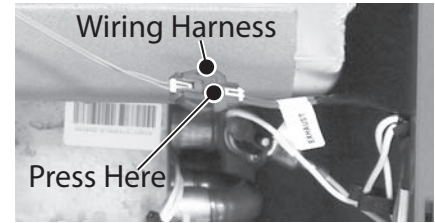

Figure 64 - Wiring harness location
- 16 Disconnect the thermistor wiring harness marked "EXHAUST". See Figure 64.